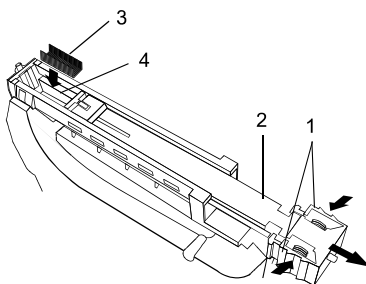

Fig. 4
5. Place a row of staples (3) in the magazine (4) with open end of staples facing upward (see Fig. 4).